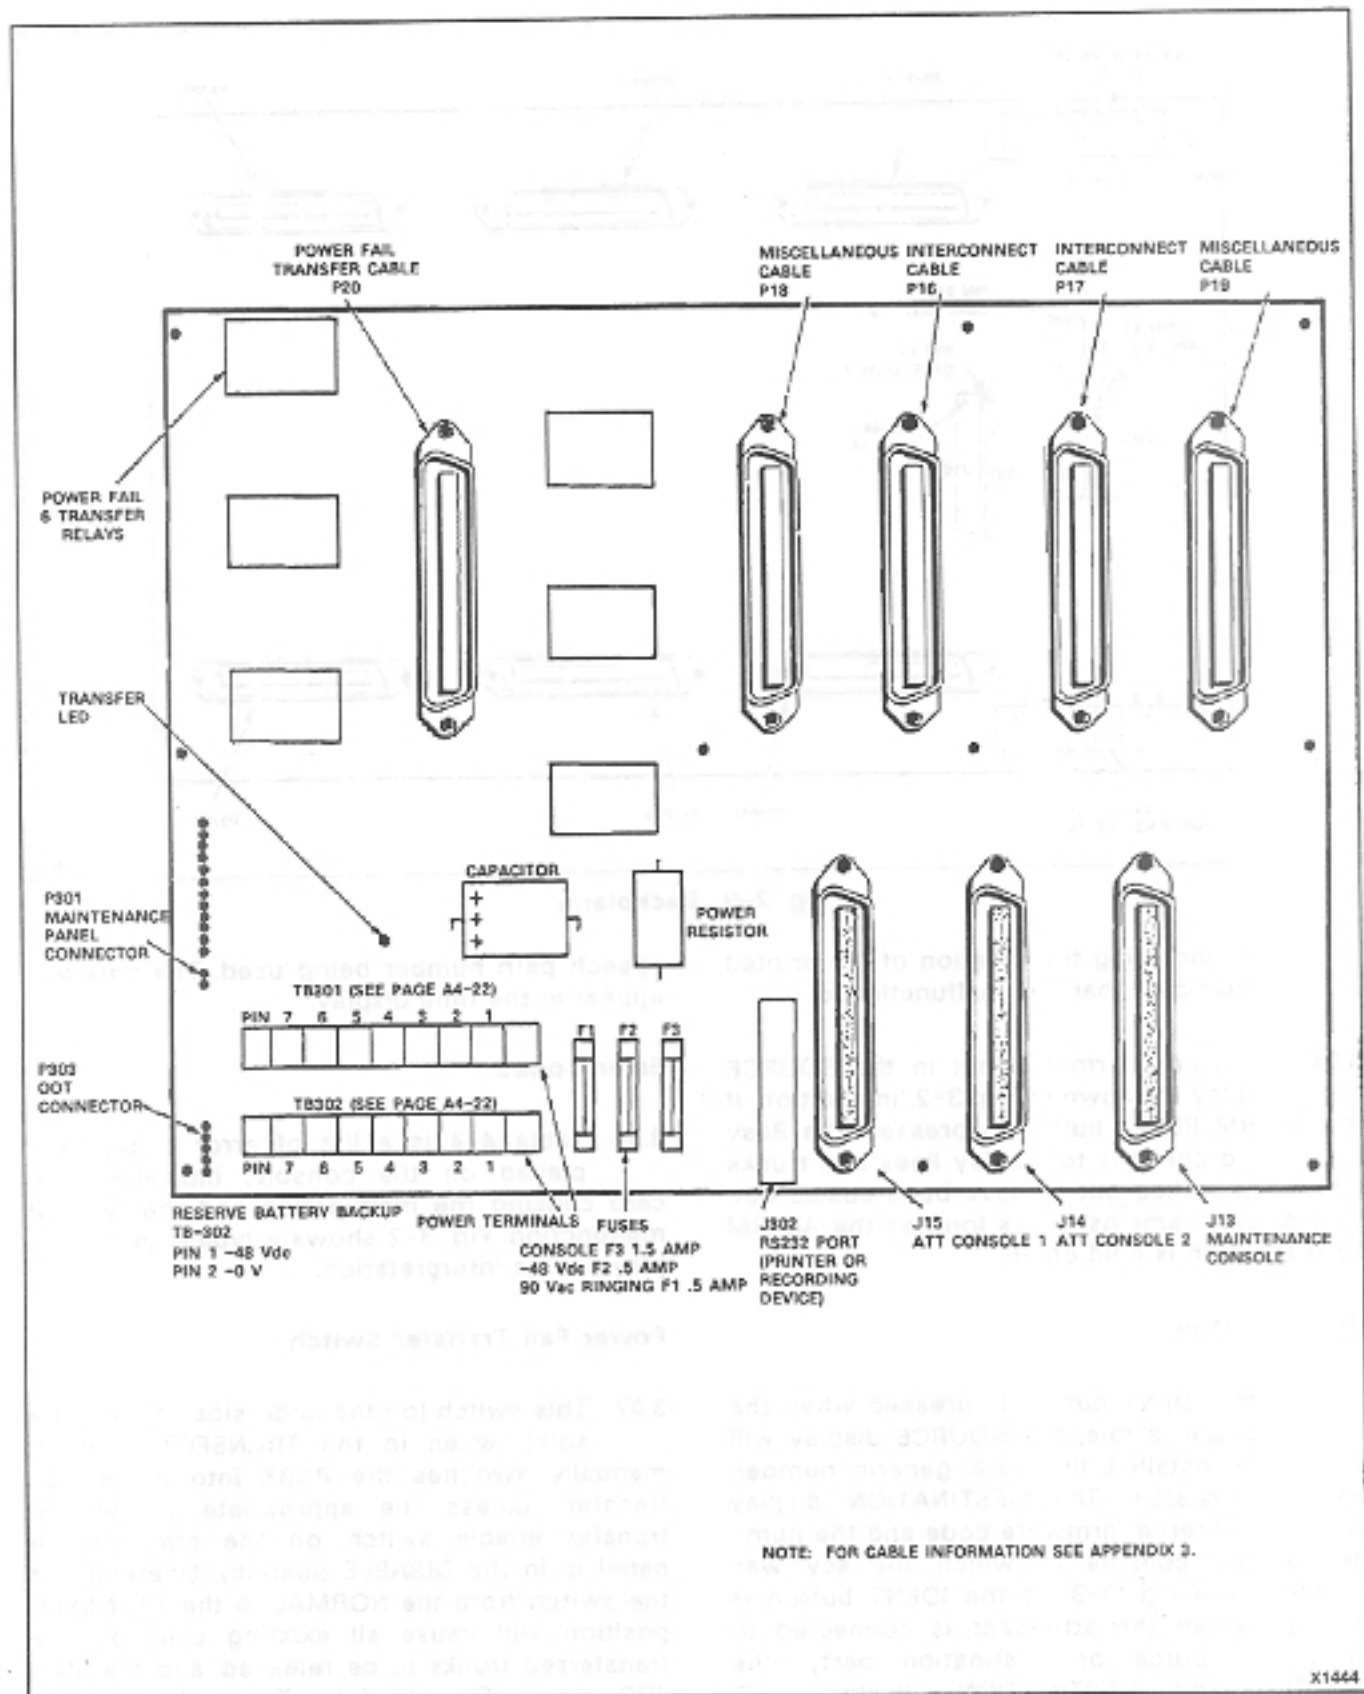

Fig. 2-8 SX-100 Interconnect, Console Interface, Power Fail Transfer Card
2.24 The SX-100 combines the Console Interface, Power Fail Transfer, and Console Interconnect on one card (Fig. 2-8). All plugs on this card perform the same functions as listed in Table 2-7. All power for the board is provided by the two terminal blocks (TB301 and TB302) fed by a cable from the power supply. In the event of a commercial power or equipment failure, up to six CO trunks can be automatically connected to six extensions. In addition, the board has a Transfer LED which